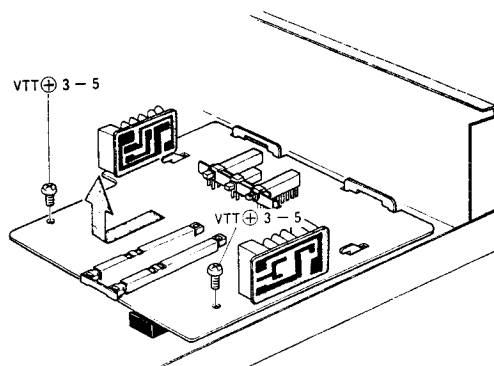

Fig. 5
- 2) Remove 2 screws. (Refer to Fig. 5)